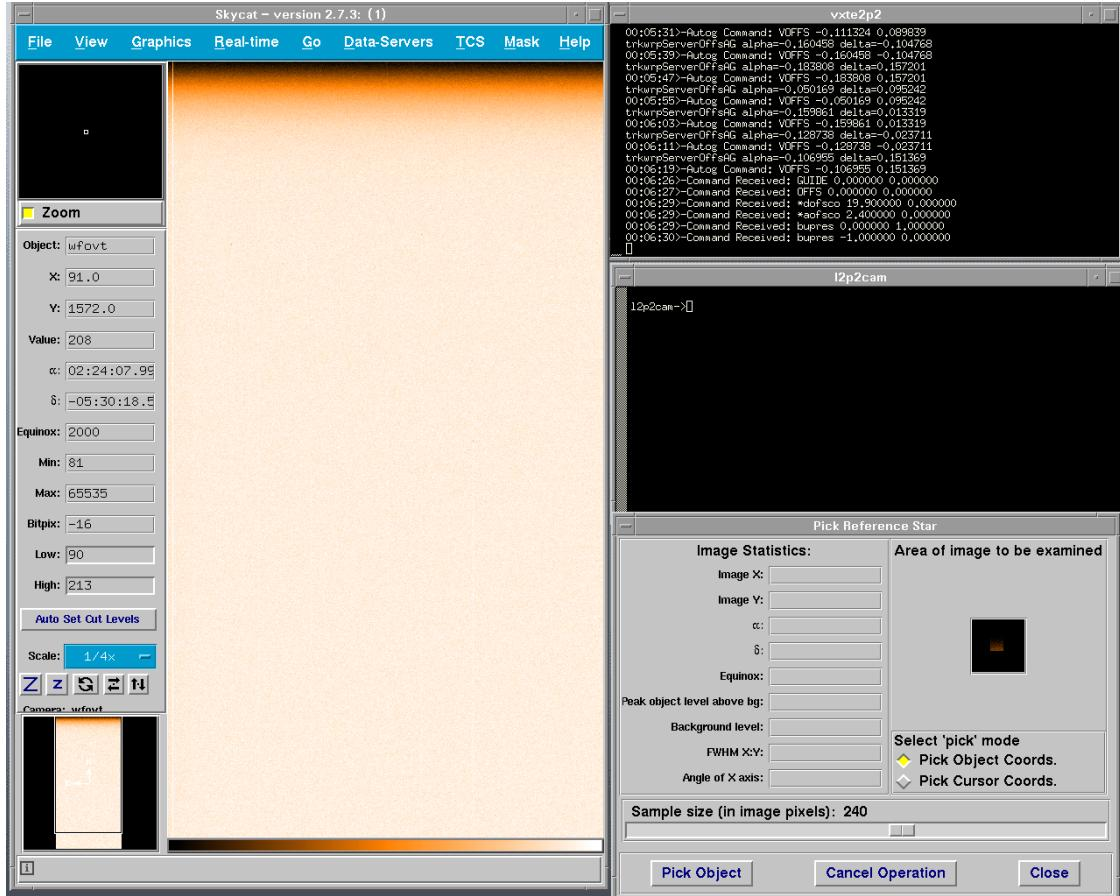

Figure 11.3: The **AG** field is displayed on the **TCS rtD** (left) where the reference star can be picked (using lower right window).
**WFI AG.** The buttons of interest are **Retrieve field** (to probe the **AG** field, displayed in Fig. 11.3, p. 93), **Box to star** (to start the guiding when a guide star has been picked) and **Off** (to turn off the **AG**). Tuning of the **AG** (e.g. integration time) can be done on the Autoguider area of the **TCS** setup panel (Fig. 11.2, p. 92).